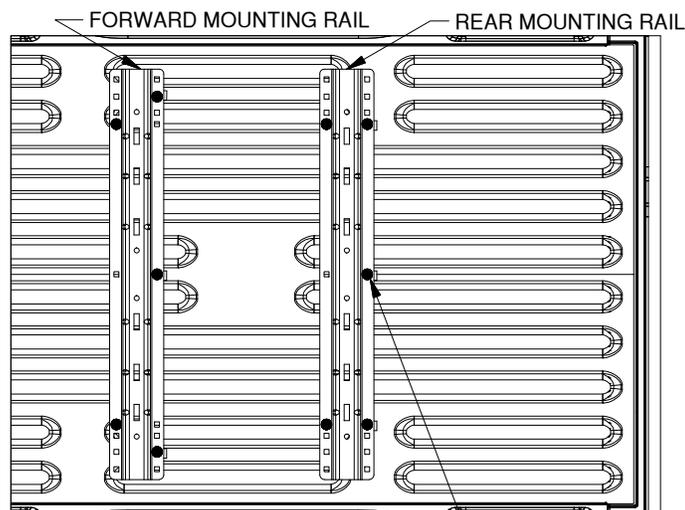

Figure A2: Detail view over bed, showing drill locations for the forward and rear bed rails.
- 2. Mark hole locations:** While carefully ensuring the mounting rail does not move, use a center punch tool to mark the 5 drill locations on the rear rail. See figure A2 for hole marking locations for this installation (forward rails will install on a later step). Once all 5 rear rail locations are clearly marked, move the bed rail out of the way and drill each location with an 1/8" drill.
- 2. Drill forward mounting holes.** Using the same methods as used for the rear mounting rail, mark and drill the 1/8" holes for the forward mounting rail. Refer to "DRILL REAR MOUNTING HOLES" section, step 2, on a previous page. Notice that the hole locations are slightly different than the rear rail, see figure A2 (on the second page).